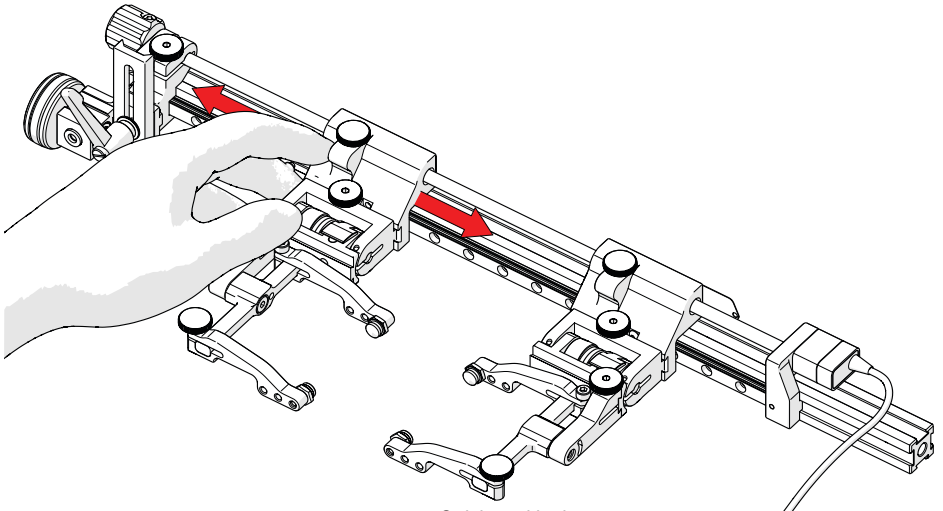

Fig. 27 - Quick positioning
3. When the knobs are loose, it is possible to just push the carriages in place for quick adjustment (Fig. 27). Tighten both knobs to lock the carriages in position.